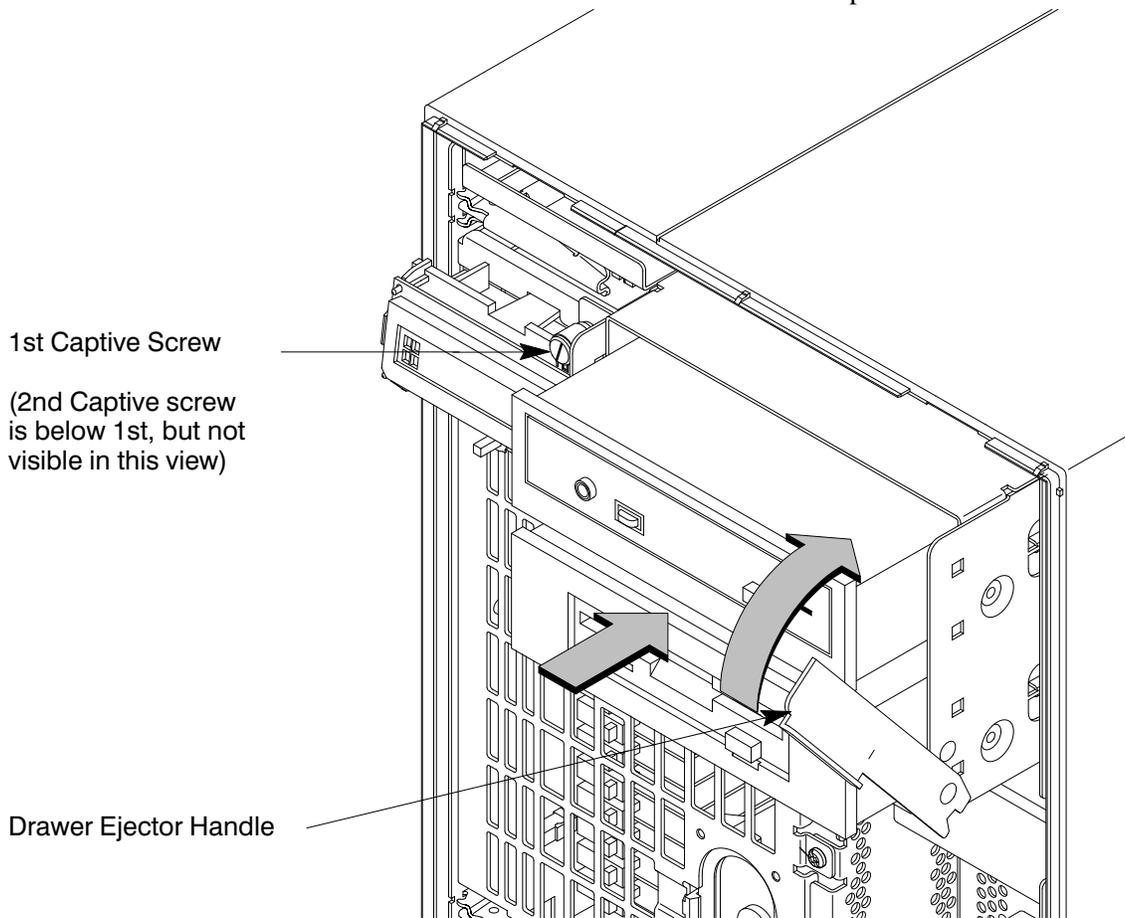

Figure B-15. Replacing the Storage Drawer Assembly
- 17.** Push the drawer ejector handle up until the Storage Assembly slides all the way into the system unit and secure the two captive screws on the left of the Storage Assembly, as shown in Figure B-15.